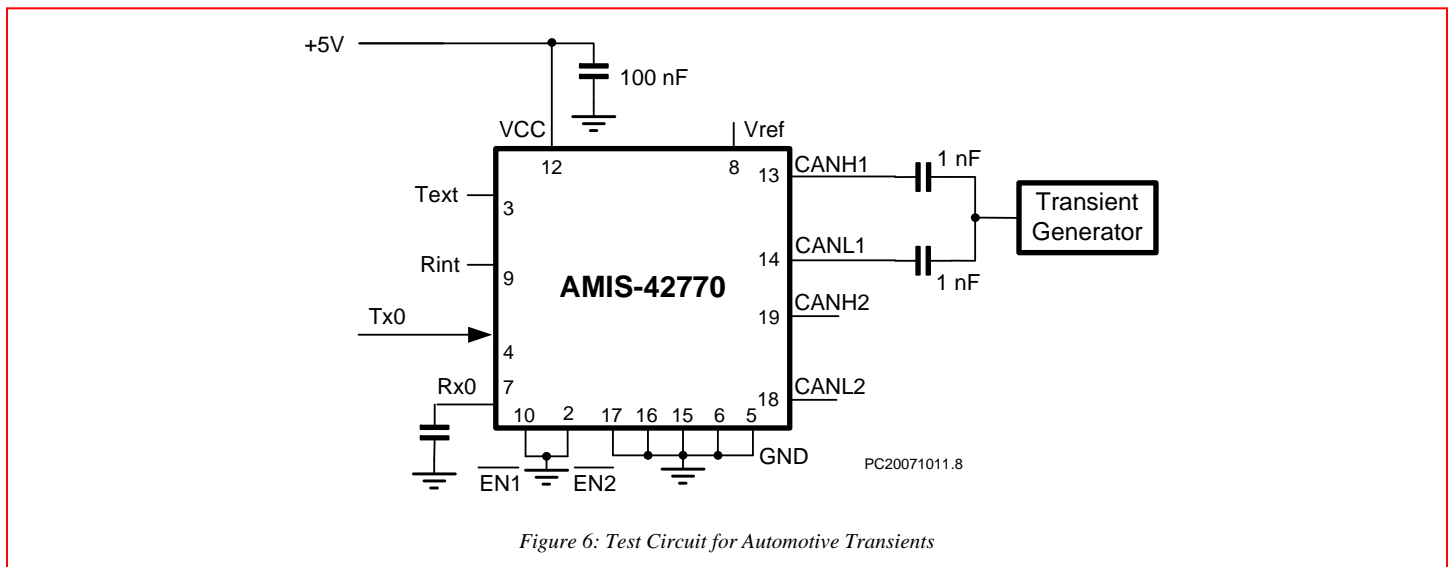

Figure 6: Test Circuit for Automotive Transients
- (1) Applied transient waveforms in accordance with "ISO 7637 part 3", test pulses 1, 2, 3a, and 3b (see Figure 6).
- (2) Standardized human body model (HBM) ESD pulses in accordance to MIL883 method 3015. Supply pin 8 is ±2 kV.
- (3) Static latch-up immunity: static latch-up protection level when tested according to EIA/JESD78.
- (4) Standardized charged device model ESD pulses when tested according to EOS/ESD DS5.3-1993.